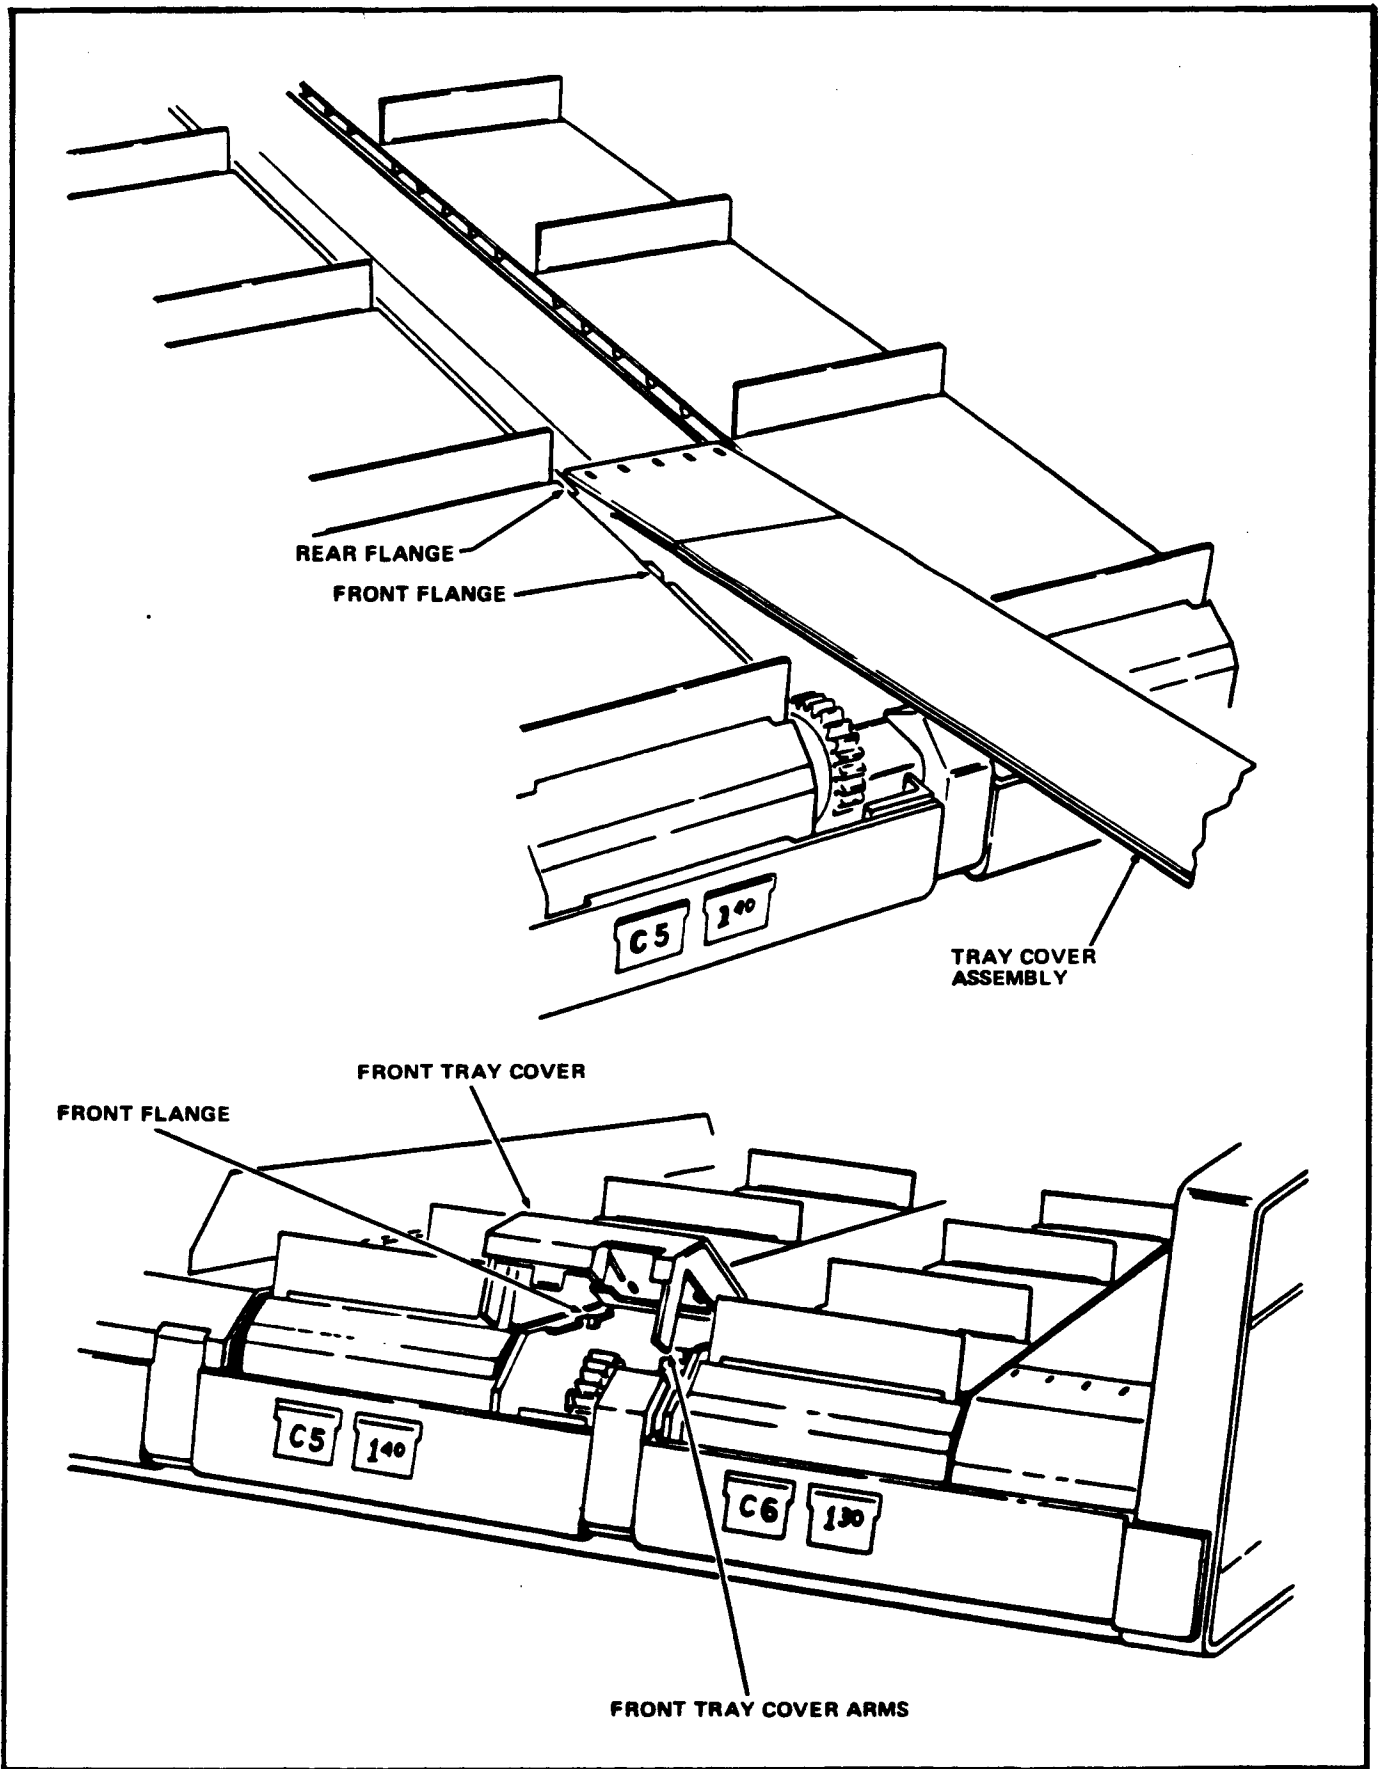

FIGURE 17
- a. Insert the Tray Cover Assembly onto the Module Flanges as shown in Figure 17.
- b. Push the Tray Cover Assembly back until the front of the Tray Cover Divider is inserted on the front set of Flanges on the Module. See Figure 17.
- c. Pull the Front Tray Cover forward and push it down. Be sure the Arms on the Front Tray Cover are inserted between the Modules. See Figure 17.